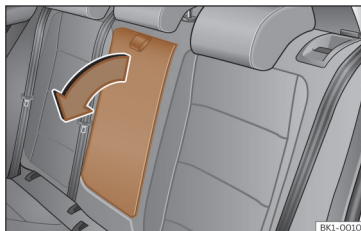

Fig. 79 Folding rear centre armrest (schematic view).
- To **lower** the armrest, pull the cord in the direction of the arrow»» **Fig. 79**